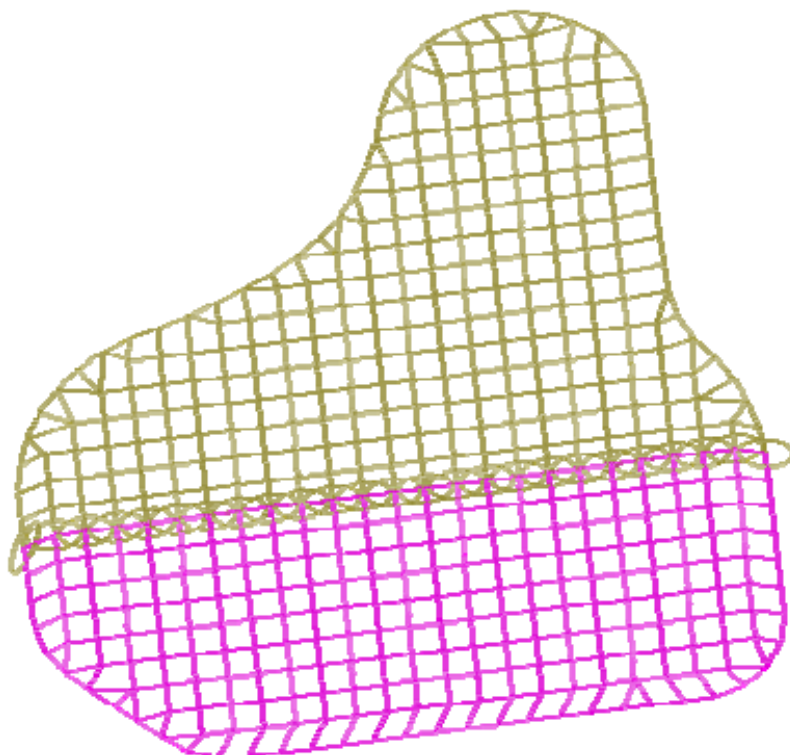

Figure 5.40 Welds
30. The working directions of the defined tools are along the Z direction of Global Coordinate System. However, the feature encircled in Figure 5.40 cannot be formed along the working direction due to backdraft angle. Therefore, a separate process with different working direction is needed to facilitate cam forming operation in making of the feature.